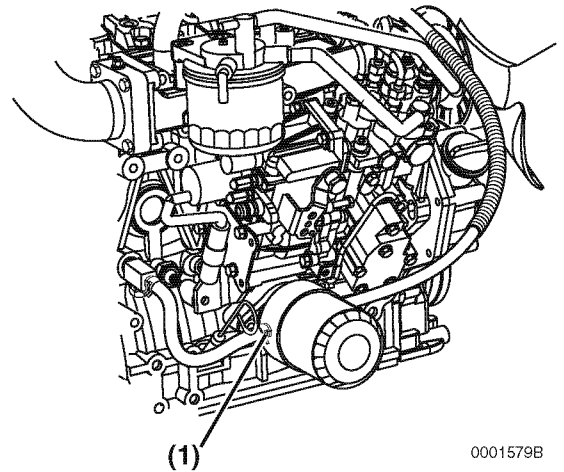

Figure 21
- On models equipped with an oil cooler, remove the coolant hose (**Figure 21, (1)**) at the oil cooler.